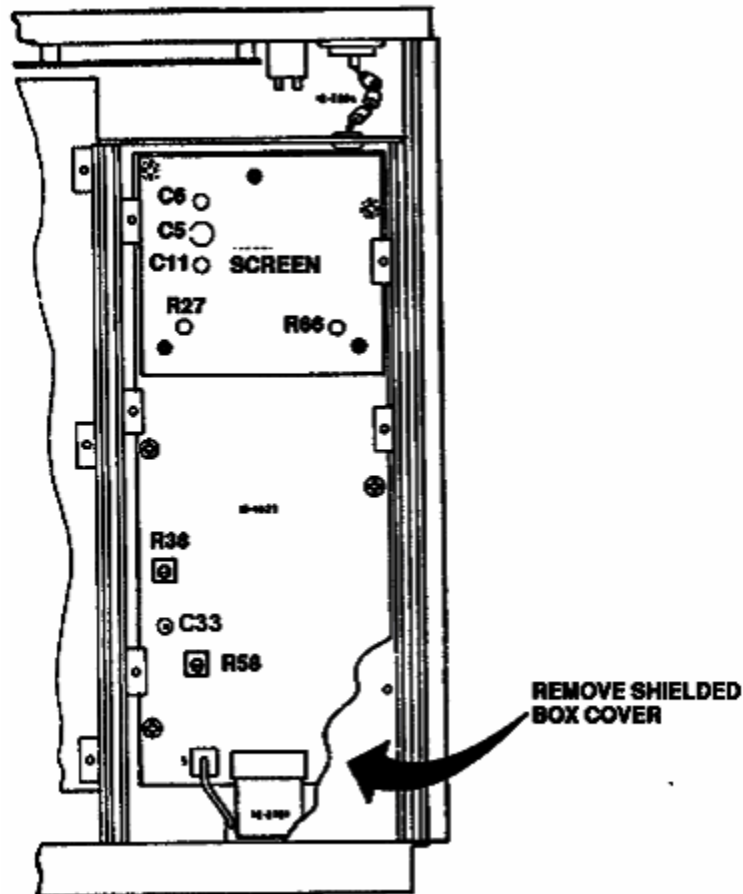

Figure 2. View of underside of module assembly.
³Figure 2.
(1) Set calibrator output for an initial 1.000V, 1kHz wideband output. Adjust calibrator for TI indication equal to the value recorded in table 3 for 1.000V, 1kHz, to establish a 1 kHz reference. Press calibrator **NEW REF** pushbutton.
(2) Set calibrator frequency to 10 MHz and adjust A3C33 fig. 2 for value recorded in table 3 for 1.000V, 1 kHz. Repeat steps 8 a (5) through (7) above (R).